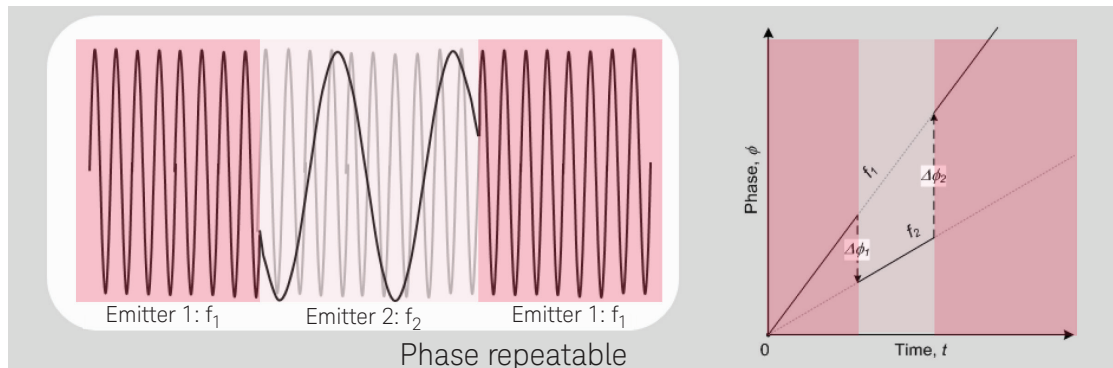

Figure 4. Two emitters at two different frequencies should maintain their phases to properly be simulated.
- **Agile Range.** Agile range is the frequency range in which a source can switch at high rates. This parameter is important to know for two major reasons: pulse density coverage and coherency between emitter pulse changes. Agile range varies between source architectures and will be discussed more in later sections. Coherency between pulse changes is important to adequately simulate the phase of an emitter throughout a scenario due to the phase tracking of EW systems. For example, if a source was simulating two emitters at two different frequencies, the phase of both emitters' frequencies must be "remembered." That way, when the frequencies change, their phases should continue as if the frequencies were never switched (Figure 4).